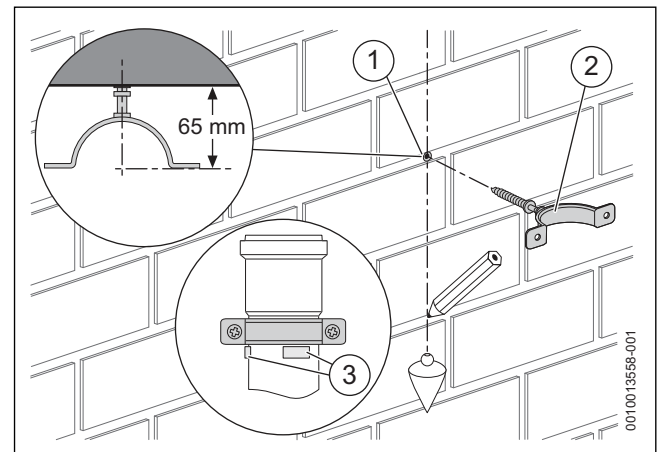

Fig. 46 Support clamp fitting
Support clamp (→ figure 46)
- ▶ Screw in the support clamp into the wall plug to the distance shown in figure 46.